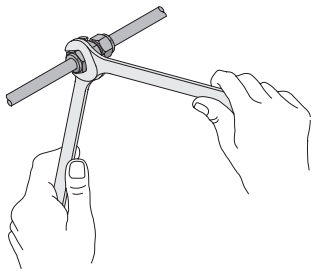

Fig. 6 Tighten Nut with Wrench
12. Mark the nut at 6 o'clock position. Hold the fitting body stable and tighten the nut 1/2 turn with a wrench. See Fig.6.